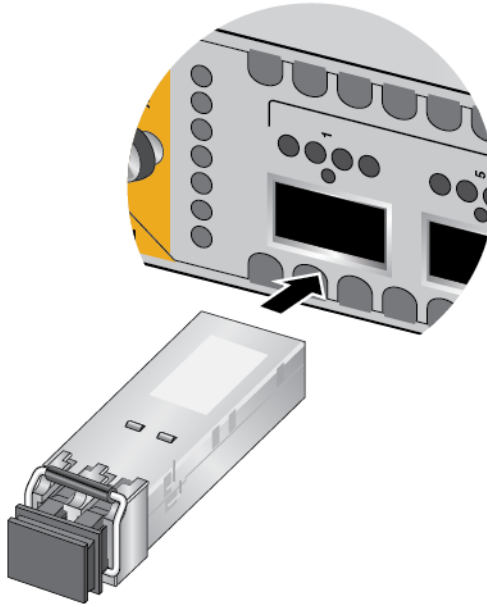

Figure 132. Installing 40Gbps Fiber Optic Transceivers in XEM2-4QS Line Cards
- ❑ 40Gbps transceivers in XEM2-4QS Line Cards - refer to Figure 132.